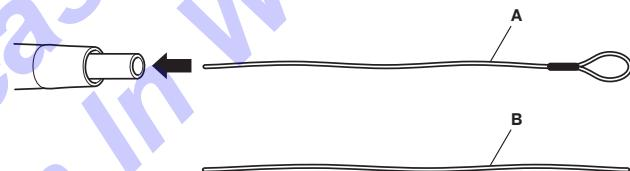

Figure 106 – Cleaning Wire Insertion
- Insert a cleaning wire into the tip aspiration port and handpiece suction lumen to dislodge and remove debris (Figure 106).